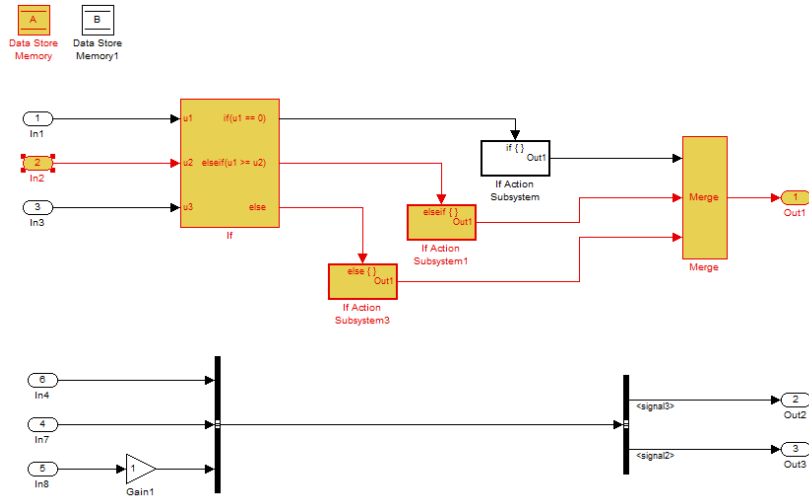

Figure 4: Resulting model after **Reach From Selected** operation
1. Let us perform a reachability analysis to find all possible dependencies of the Inport block In2. To do this, right-click on the In2 block and select the **Reach From Selected** option. The resulting model is shown in Figure 4. Due to the fact that In2 is used in the last two condition checks of the If block and its data flow is traced to Outport block Out1. Doing a reachability analysis on In2 also shows clearly that it impacts the Data Store Memory block A.